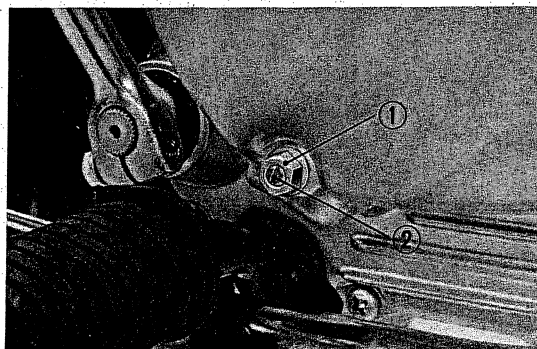

Fig. 9 Clutch adjustment
- 1) Loosen the clutch cable adjuster lock nut and turn the adjuster clockwise to make the cable free. Then loosen the lock nut of the clutch adjuster on the right crankcase cover. Turn the adjuster screw counter clockwise until a slight drag is felt and return it by 1/8 to 1/4 turn. Tighten the lock nut securely. (Fig. 9)